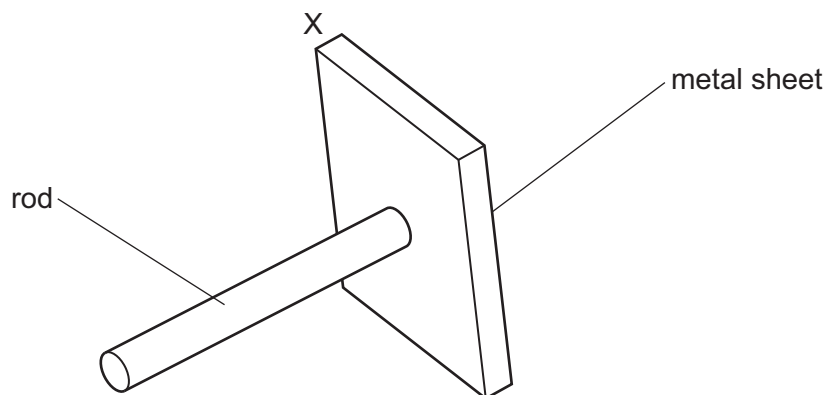

Fig. 2.1
- 2 Fig. 2.1 shows a square metal sheet of non-uniform density, with a thin wooden rod fixed at its centre. One of the corners of the sheet is labelled X.